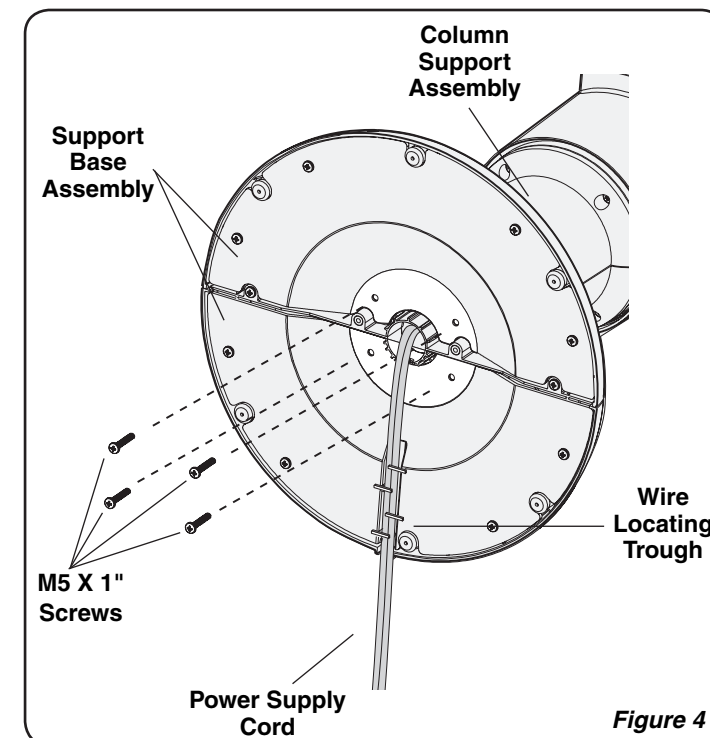

Figure 4
- Align the **Support Base Assembly** with the **Column Support Assembly**, noting that the cord channel on the bottom of the support base should be toward the back of the Fan. Assemble the **Support Base Assembly** to the **Column Support Assembly** with (4) 1" Long **M5 Screws**. Gently pull any excess slack of the **Power Supply Cord** and place it in the **Wire Locating Trough**. (**Figure 4**)